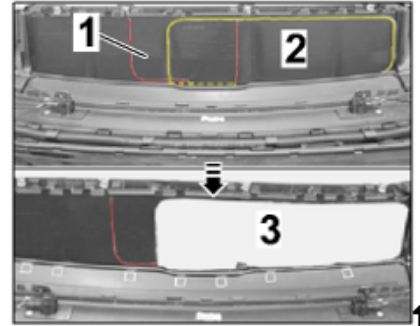

Figure 4
- 1.4 Expose connector B (6-pin)/connector C (10-pin) on trailer hitch preparation near the fuse box in the luggage compartment ( ⇒ *Figure 4*).